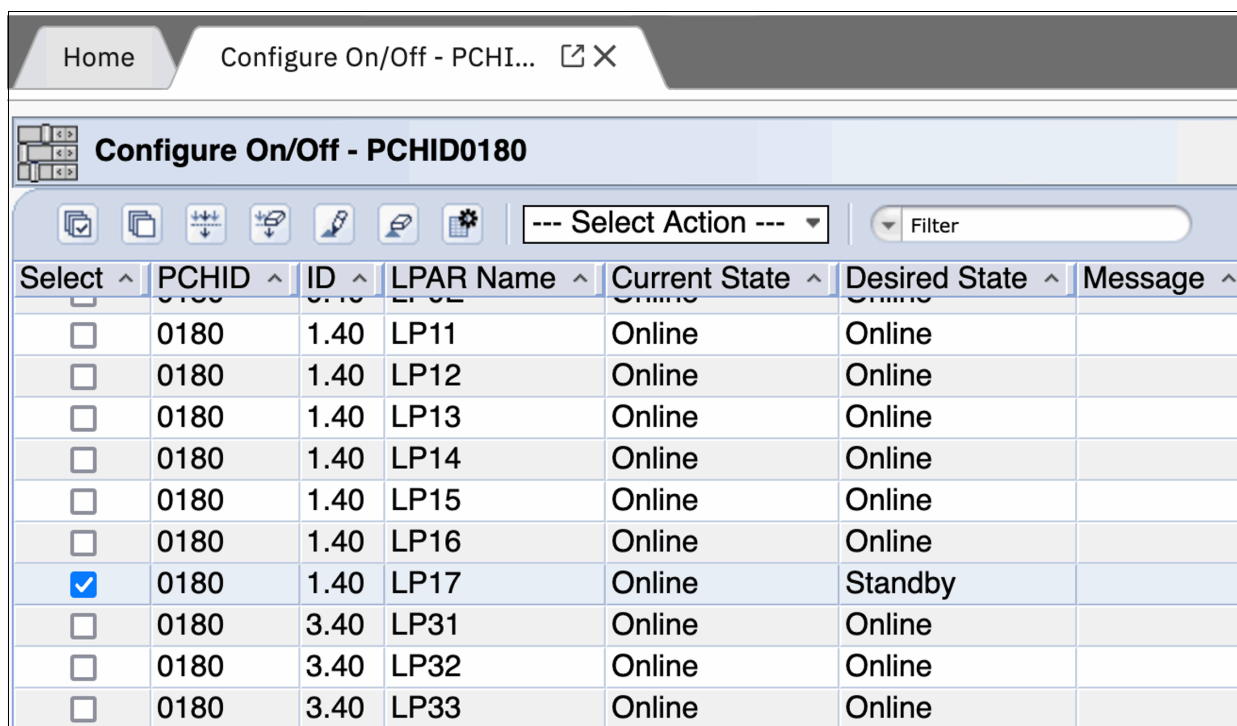

Figure 16 Verify that the wanted LPAR CHPID is the only one selected with a changed Desired State
7. Verify that the wanted LPAR CHPID is the only one selected with a changed Desired State. Click **OK** at the bottom of the panel (Figure 16).